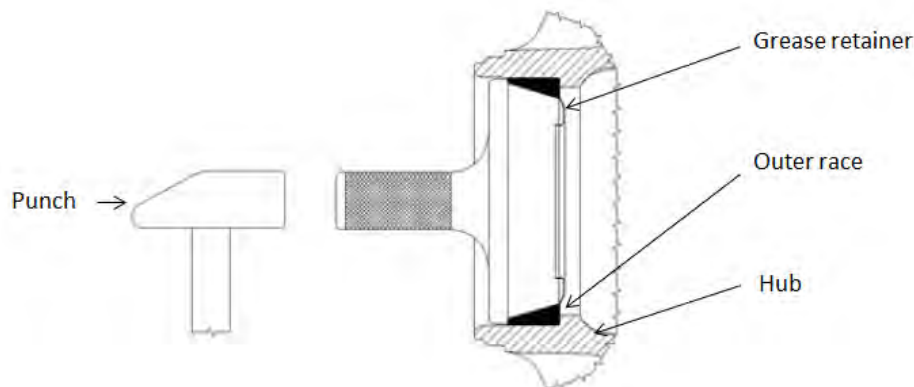

Figure 60 — Inserting New Outer Races
3. Insert the outer races as shown in Figure 60.